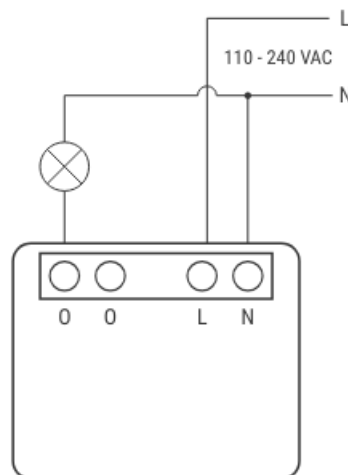

Fig. 1
- Connect the load to any of the O terminals of the Device and the Neutral wire, as shown in Fig. 1. Connect the Live wire to an L terminal of the Device.